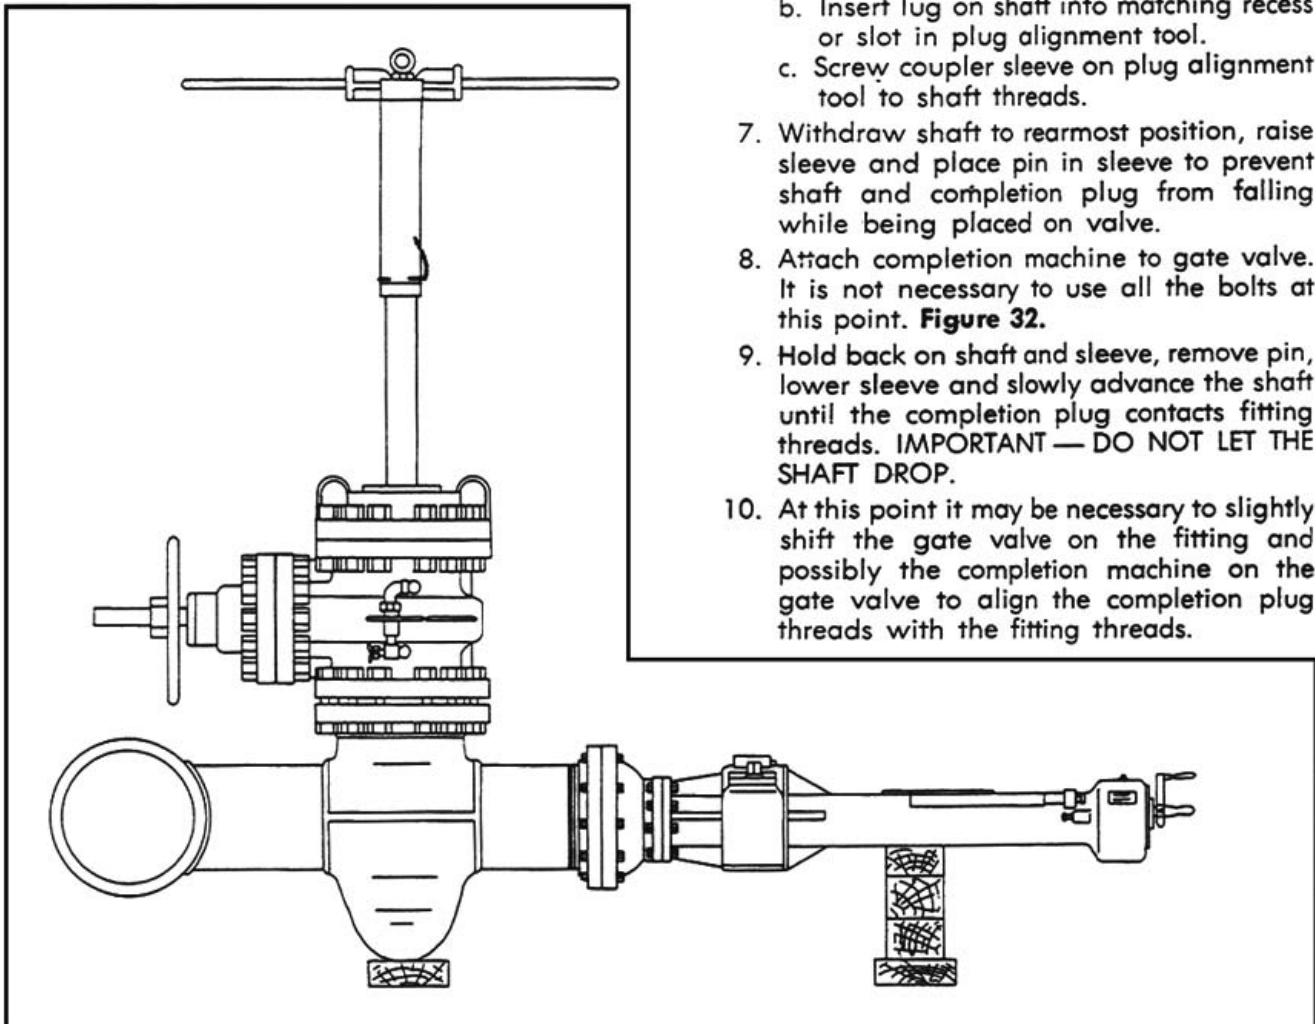

FIGURE 32
8. Attach completion machine to gate valve. It is not necessary to use all the bolts at this point. **Figure 32.**